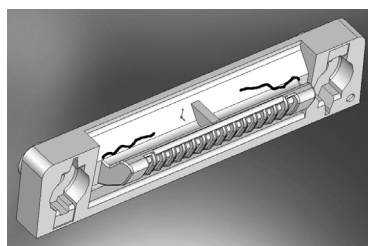

Figure 1: Male IUI Connector (left side)
1. Visually inspect the right side (male) IUI connector for cracks on the entire surface of the black colored plastic housing. See Figures 1 and 2 for the male IUI inspection area and typical cracks.